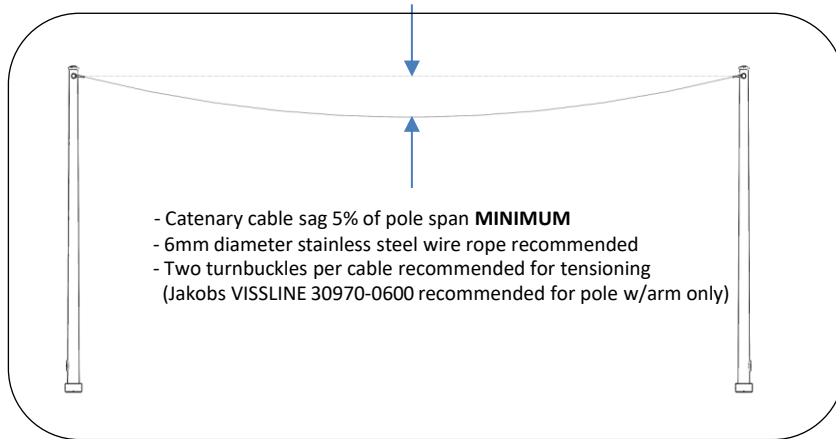
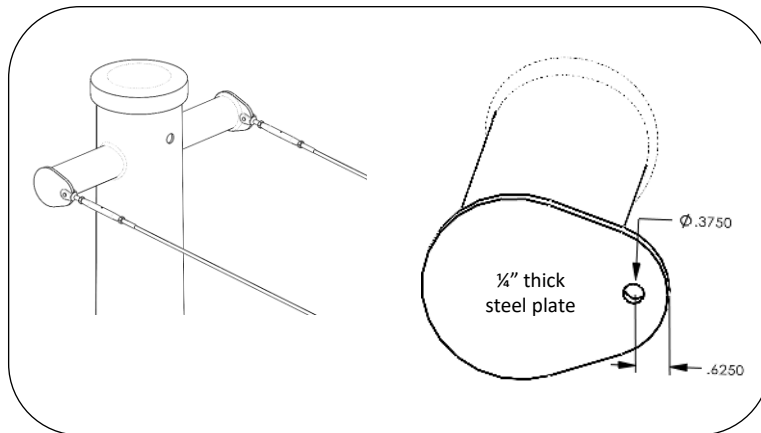

Fig. 3 - Attach cables to poles
Fig. 4 – Arm Tab Detail
5. Install Catenary cables as shown in Fig. 3. Cable and attachment hardware supplied by others. See Fig 4 and 5 for supplied pole mount dimensions. Stainless steel cable is required (6mm – 8mm diameter is acceptable; Minimum allowable working limit 3.5kips)